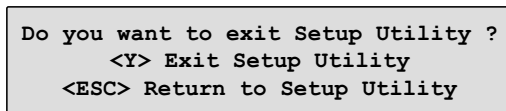

Figure 6 Exiting the setup utility
25. The operation completes quickly, and you can exit the setup utility by pressing the Esc key until you reach the exit confirmation panel, as shown in Figure 6.